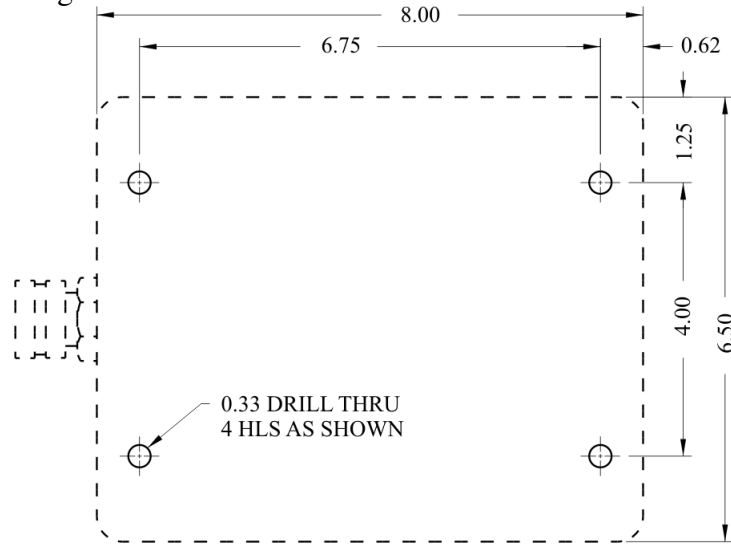

Figure 13
- Mark locations of mounting holes on mounting surface or bracket per Figure 13
- Drill four (4) 21/64" diameter mounting holes.
- Open hinged cover of battery enclosure by loosening the four screws. Insert one 5/16-18 UNC socket head cap screw from the inside of the enclosure through each of the four (4) mounting holes of the enclosure and into the corresponding holes in the mounting surface or bracket. Assemble nuts and lock washers to each mounting screw then tighten.